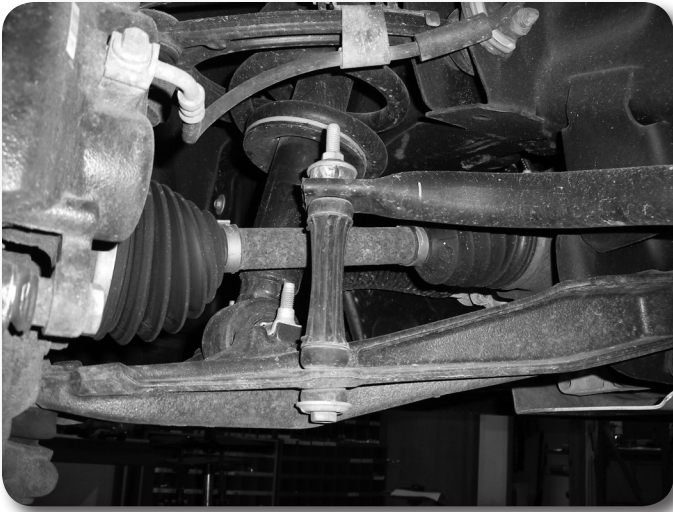

Figure 1
3. Disconnect the front driver's and passenger's side sway bar links from the sway bar. Save hardware. **Figure 1**